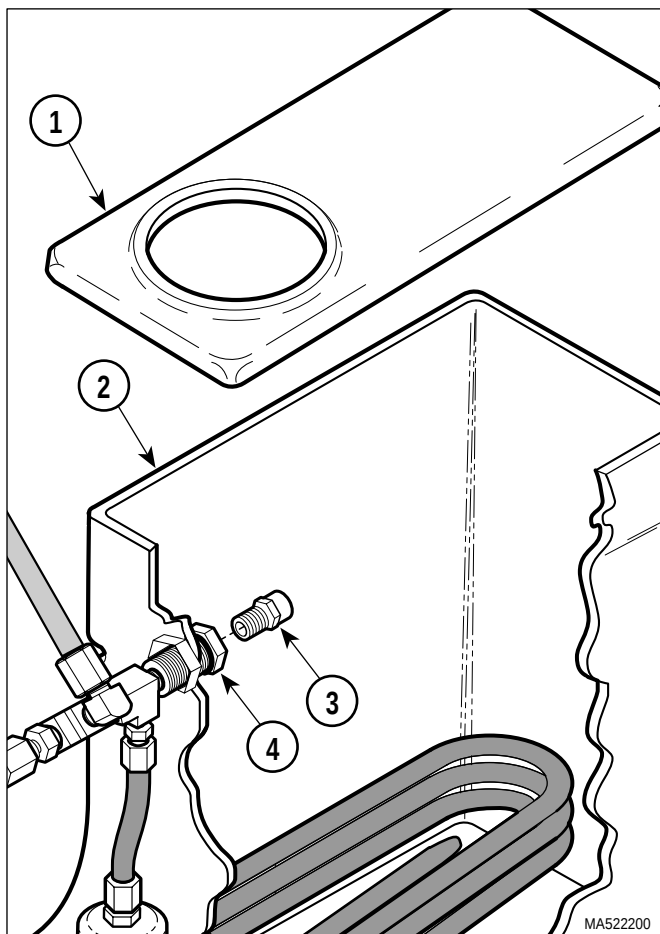

Figure 4-12. Pressure Relief Valve
- (2) Remove tank cover (1, Figure 4-12) from tank assembly (2).
- (3) Remove pressure relief valve (3) from bulkhead fitting (4).